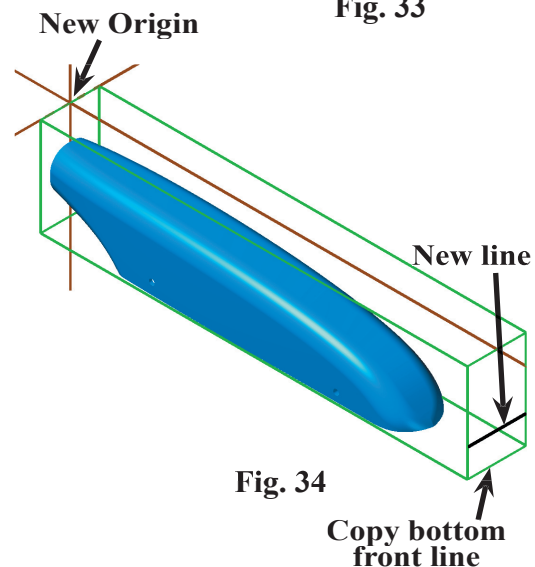

Fig. 34
Step 7. Check the new origin, **Fig. 34**.
Step 1. Click the **bottom front line** of the wireframe, **Fig. 34**.